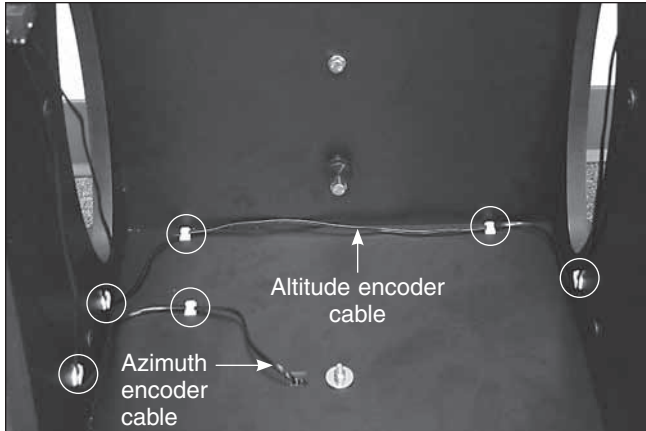

Figure 13. Use the wire clips to secure the cables neatly to the base.
21. Use the wire clips provided with the IntelliScope kit to secure the altitude and azimuth cables neatly to the base. We recommend using two clips for the (shorter) azimuth cable, and four clips for the (longer) altitude cable (Figure 13). The clips have adhesive backing; simply peel the paper off the back of the clip and press the adhesive back to the base where you want the clip to be located.
25. Attach the handle (M) to the front brace (B) with the two handle screws. Place one handle washer on each screw, then press the handle against the front brace (the end of the handle with the Orion logo should be facing upwards). Thread the screws from the interior surface of the front brace into the handle until tight using the supplied crescent wrench.